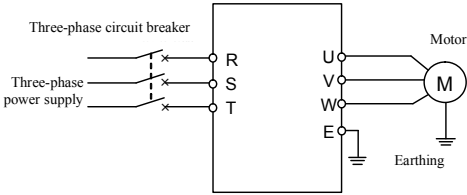

Figure 4-2 Simple Running Wiring Diagram
- ① Connect wires as per Figure 4-2;
- ② Switch on the power supply after confirming that the wires are connected correctly, and the inverter will firstly display “P.oFF” and then “0”.
- ③ Confirm that the frequency setting channel is at the digit setting model ([F0.00] = 0);
- ④ It is required to set parameter [F0.12] and [F0.13] according to the rated nameplate data on the inverter’s dragging motor.
- ⑤ Press  key to start the inverter and the inverter will input 0 frequency, displaying “0.0”.
- ⑥ Press Up of  key to increase set frequency, and the output frequency of the inverter will increase and the motor revolution will also increase.
- ⑦ Check if the motor run normally. In case of any abnormality, stop running the motor immediately and disconnect power supply. Do not run the motor until fault cause is found.
- ⑧ Press Down on the  key to decrease set frequency.
- ⑨ Press  key again to stop running and cut off the power supply.